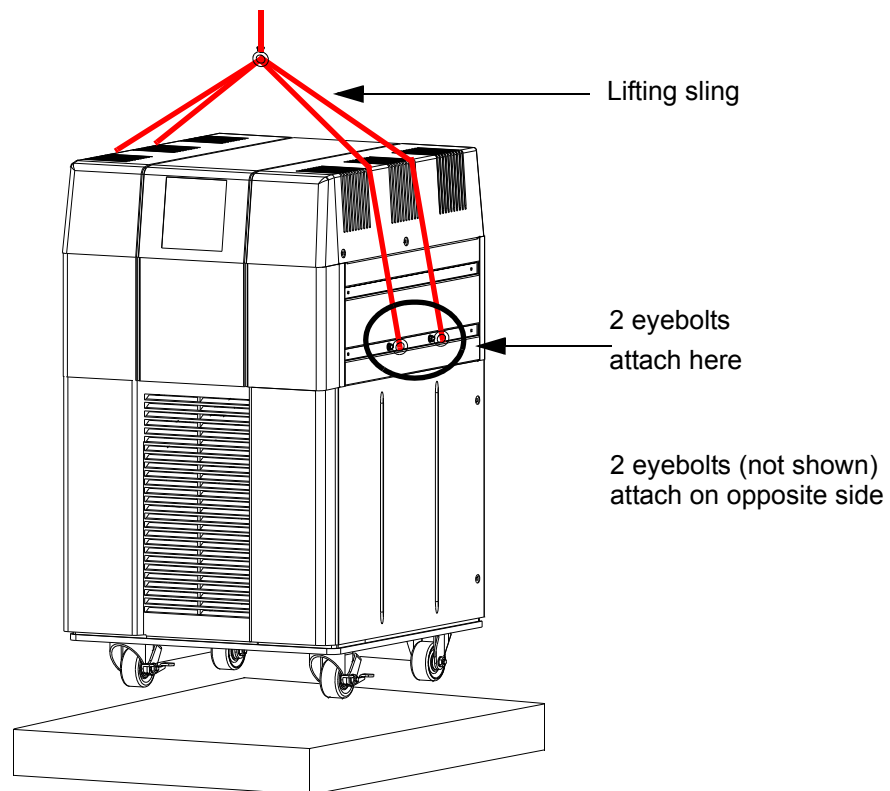

Figure 3-2: Attaching Eye Bolts and Lifting Slings to the 9700A Compressor
6. Install the four customer supplied 3/8 inch x 16 eye bolts into the holes on each side of the 9700A Compressor as shown in Figure 3-2.
7. Attach one lifting sling (minimum 48 inches in length) to each eye bolt as shown in Figure 3-2.